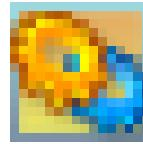
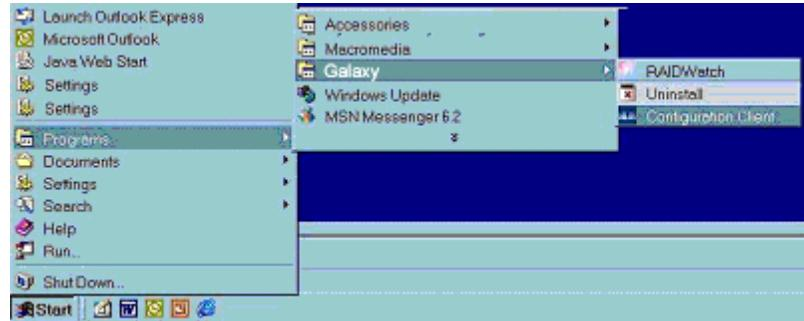

Figure 4-1: Configuration Client Shortcut on Windows Desktop
Figure 4-2: Configuration Client Shortcut on Windows Startup Menu
Step 2. If you are using a Windows operating environment, you may start the Configuration Client by double-clicking on the *Configuration Client* shortcut on your Windows Desktop. (See *Figure 4-1*) Otherwise, select *Start* on the bottom left of your screen, select the *Programs* menu, and then select *Galaxy*. Under the *Galaxy* directory, select the *Configuration Client* option shown in *Figure 4-2*.